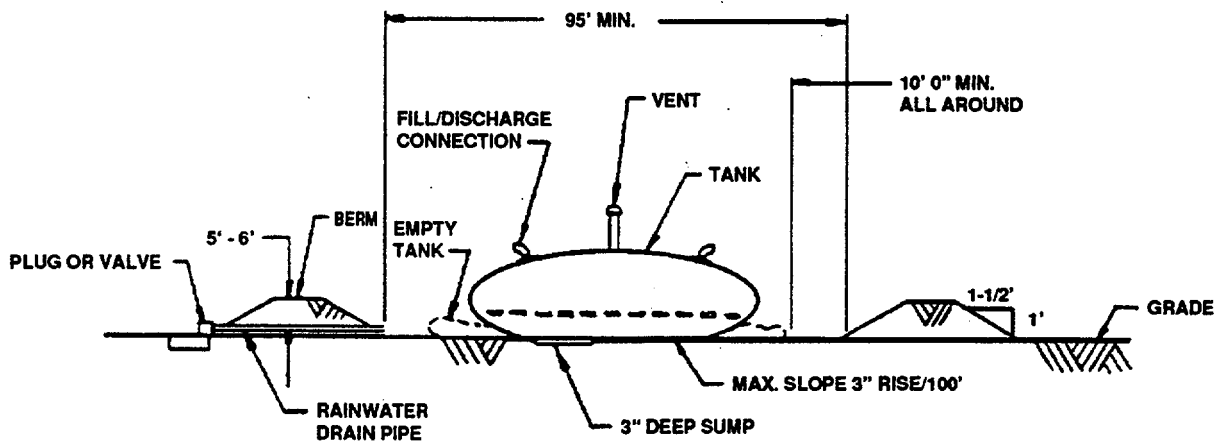

Figure 4-7. Berm Construction
- (3) Berm Construction. The site area must be bermed to stop the flow of fuel in case of rupture or leakage. An erected dike (Figure 4-7) should have the following characteristics: